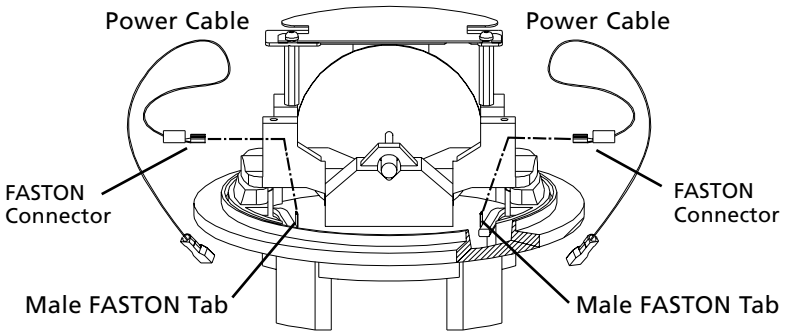

Figure 19. Attaching Power Cables to AMR Ready Meter
4. If your meter is AMR Ready, attach the FASTON connector to the male FASTON tab on the AMR Ready meter. See Figure 19.